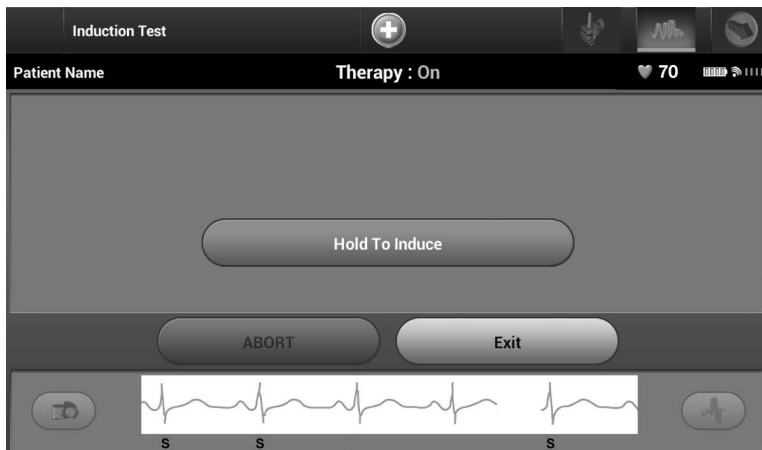

Figure 34: Induction Test screen
6. Select and hold the Hold To Induce button for the desired duration (Figure 34).